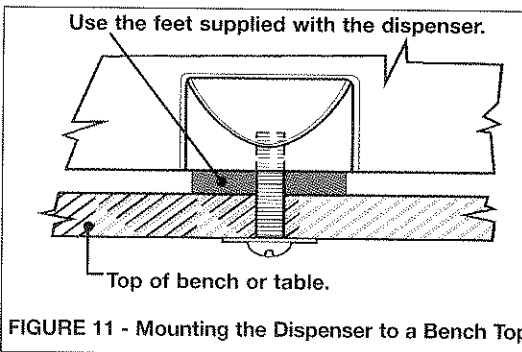

FIGURE 11 - Mounting the Dispenser to a Bench Top
5. Insert the 10-24 screws through the bottom of the bench, through the rubber feet, into the threaded holes in the bottom panel. *See Figure 11.*